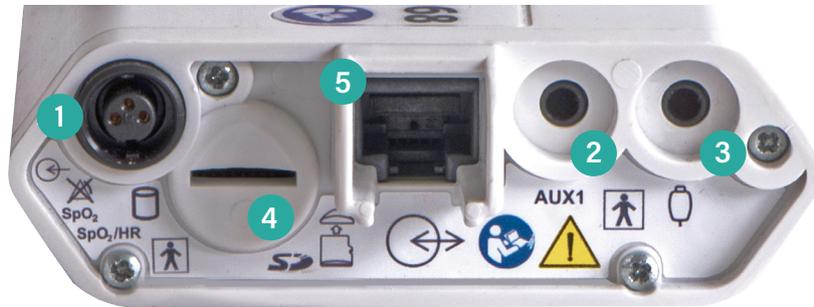

Figure 5 Connecting the T4 Amplifier (back face)
1. Slide the card into the SD card slot (Figure 5, #4) with the micro-SD card gold contacts facing down. The card will stop against a spring.